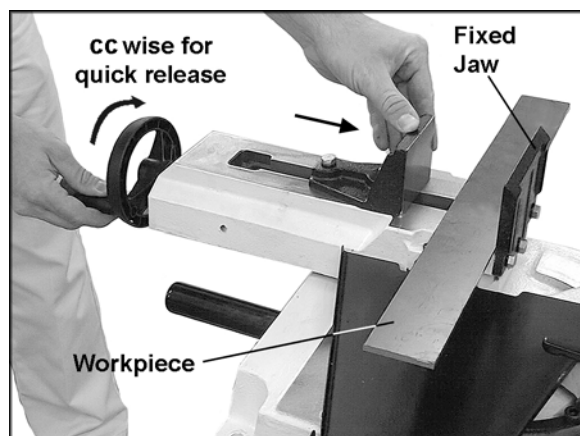

Figure 12
- The vise has a quick-release feature which allows fast positioning of the movable jaw against the workpiece. Disengage the lead screw by rotating the vise handwheel counter-clockwise about 1/2 turn. See Figure 12.